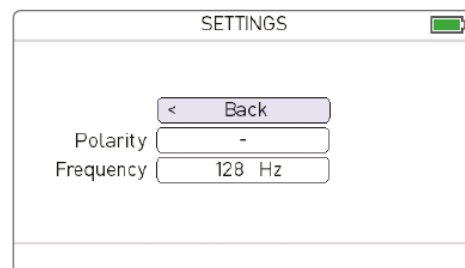

Figure 23. Settings
4. Press  to access SETTINGS (see figure 23).